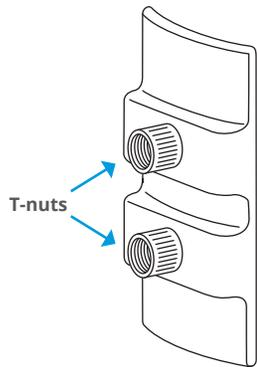

Figure 5
10. Add a thin layer of the stick wax to the exterior of the T-nuts. This step reduces the amount of resin build-up on the exterior of the T-nuts (Figure 5).